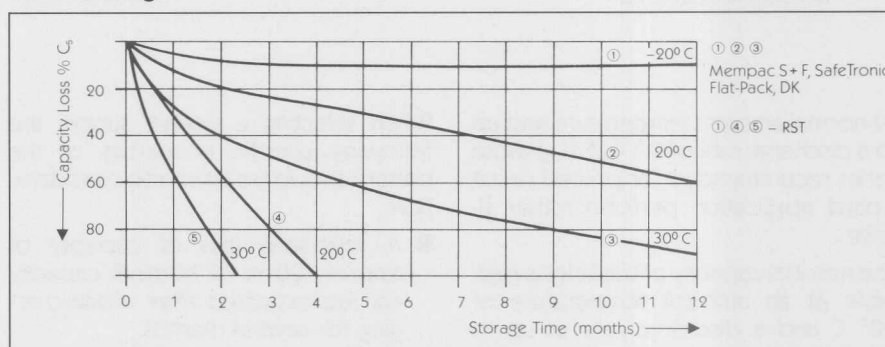

Fig. 7: Self-discharge rate dependant on ambient temperatures
- Higher temperatures accelerate self-discharge (see Fig. 7).